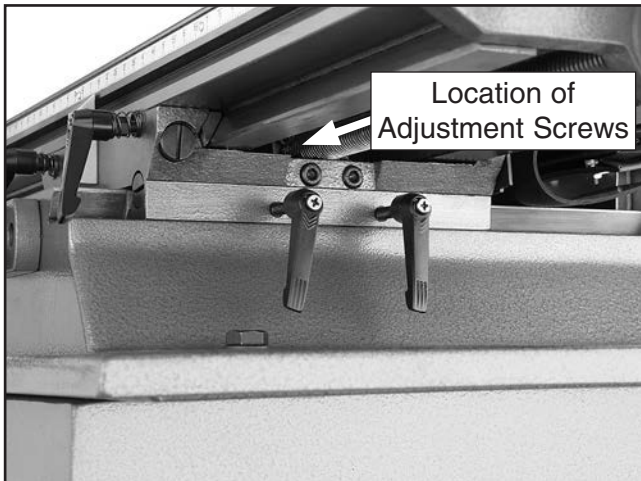

Figure 56. X-axis leadscrew adjusters.
1. Locate the X-axis leadscrew nut under the middle of the table. The head on the adjustment screws face to the right (**Figure 56**).